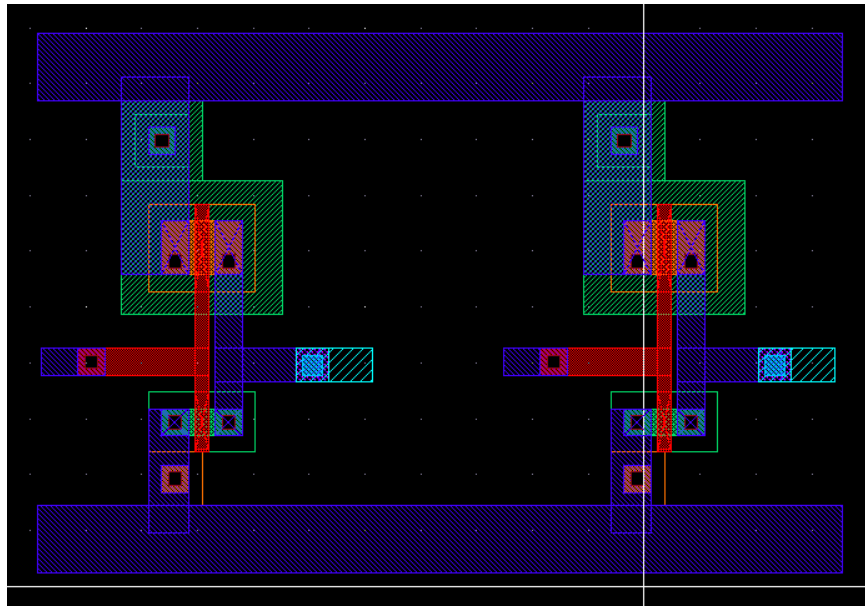

Figure 1: Layout of two inverters.
5. Line the two inverter cells up horizontally, and create vdd and gnd rails similar to figure 1.